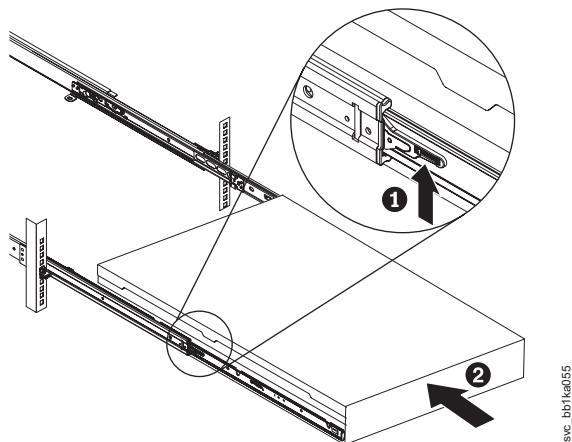

Figure 116. Raising the SAN Volume Controller 2145-CF8 locking levers of the slide rails of the rack
12. Lift the locking levers ( **1** in Figure 116) on the slide rails and push the server **2** all the way into the rack until it clicks into place.